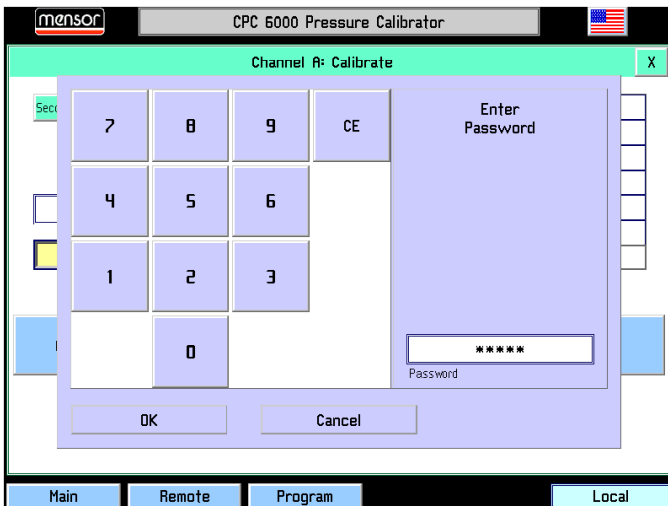

FIGURE 10.3 - 'ENTER PASSWORD' SCREEN
2. Touch the [Unlock] key to display the Enter Password window as shown in Figure 10.3.